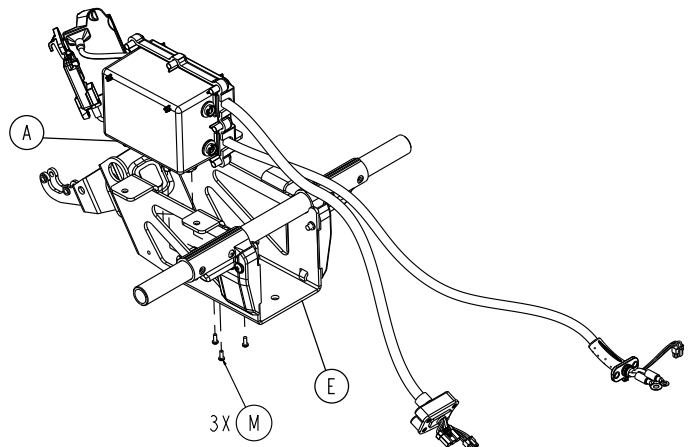

Figure 43 – Remove the HBC enclosure assembly screws
6. Using a T20 Torx driver, remove the three pan head tapping screws (M) that secure the HBC enclosure assembly (A) to the birdcage (E) (Figure 43). Save the screws.